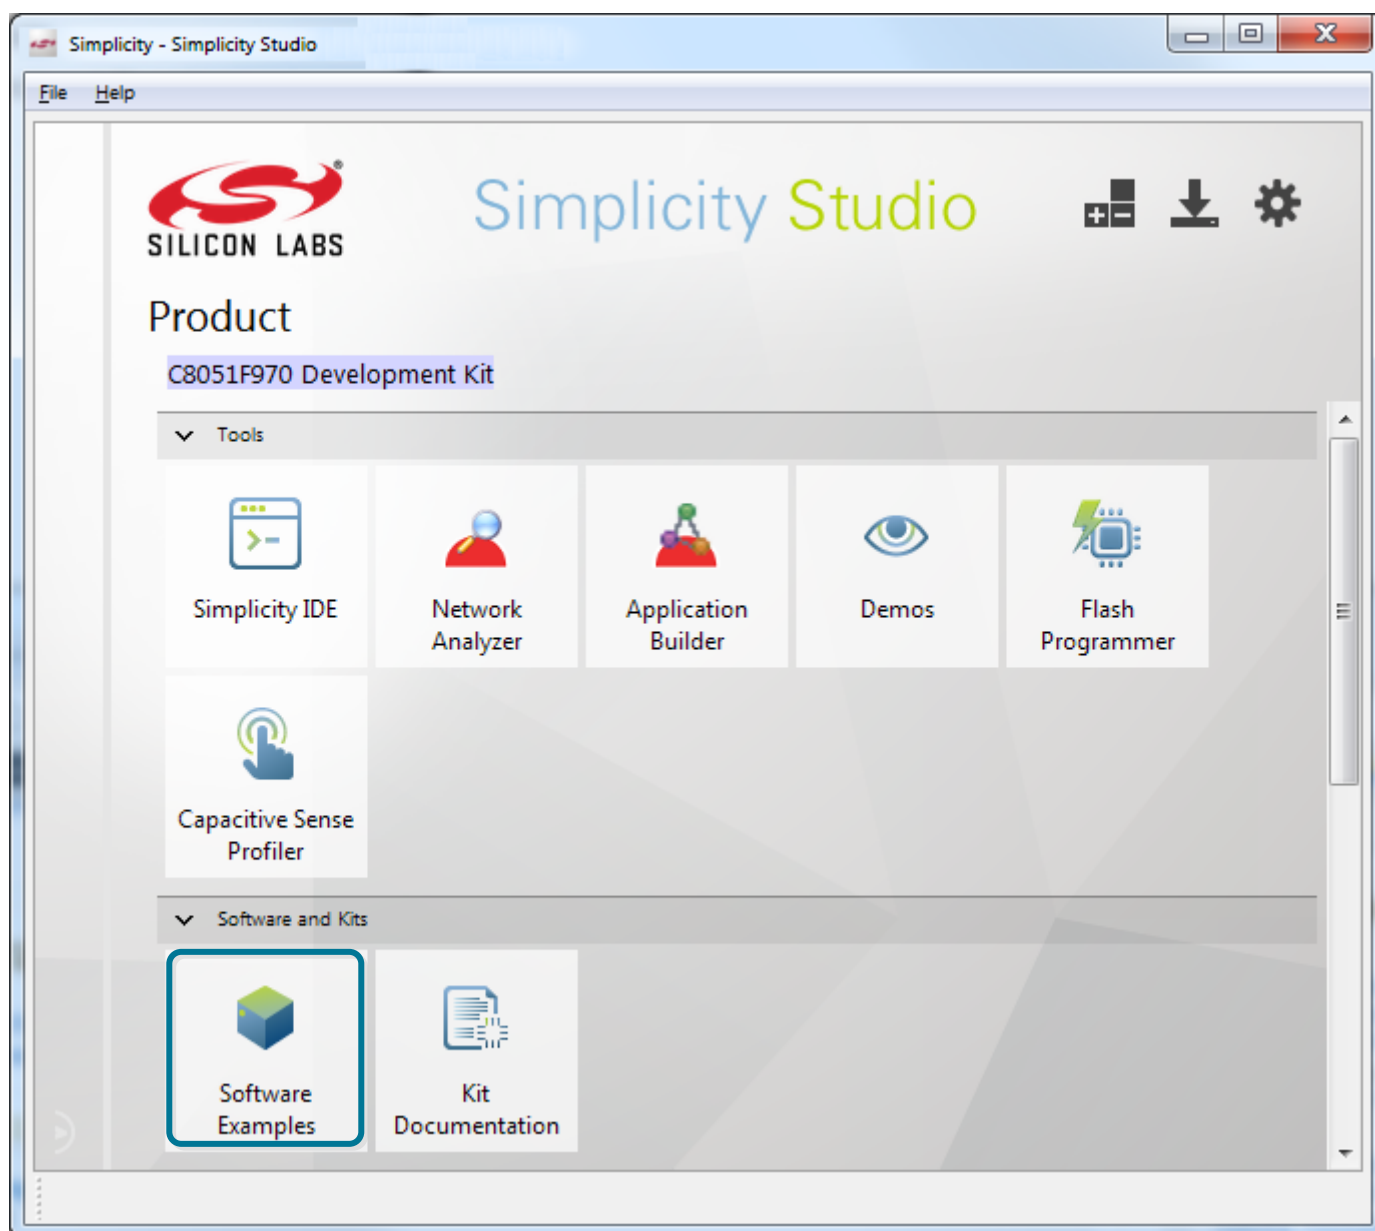

Figure 3.1. Software Examples
2. Open Simplicity studio and click on the **[Software Examples]** box as shown in Figure 3.1 Software Examples on page 5.